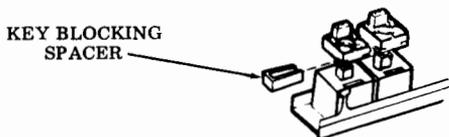

Fig. 16—Blocking Spacer Removal
- (b) Slide spacer to the left as far as it will go and then pull to the rear (Fig. 16).